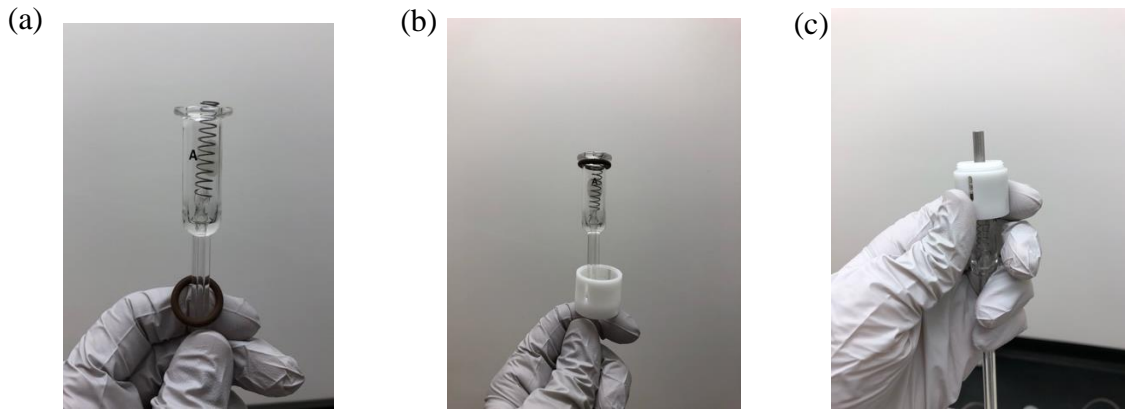

Figure 6. Assembling the cell: (a) adding the O-ring from the bottom, (b) adding the housing from the bottom, and (c) securing the housing to the electrode
- Add the O-ring to the cell first, as shown in Figure 6.
- If the sample is a loose powder, add a spring to the sample compartment (pictured in Figure 6). This provides electrical conduction through the sample, which will float and pack against the electrode.